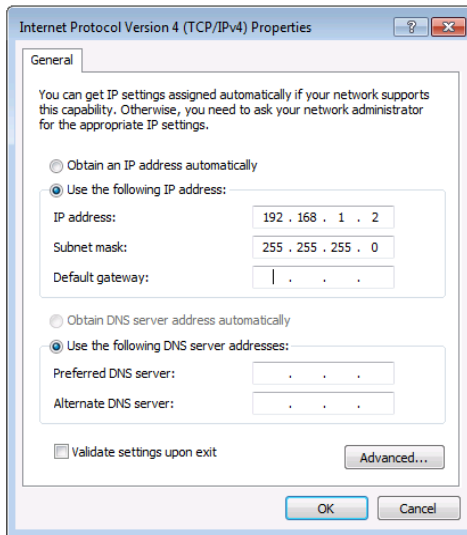

Figure 33: Internet Protocol Properties Window
6. Select **Use the following IP Address** for static IP addressing and fill in the details as shown in Figure 33.